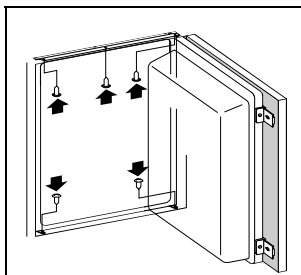

Fig. 5
- Fix the appliance into the kitchen unit. On the upper side, fix the three screws A 4 x 12 through the rail and on the lower side with two screws A 4 x 16, through the lower hinges. Drill holes, $\varnothing 3 \times 5$ (Fig. 5).